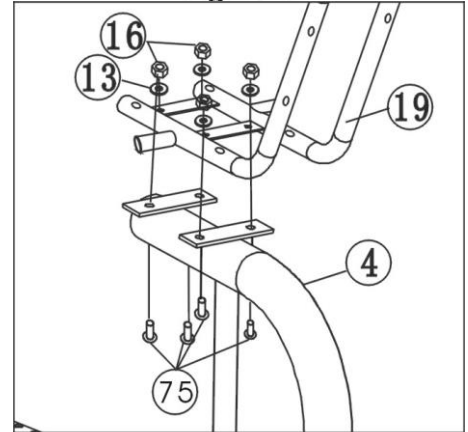

Figure 5
Attach the Seat cushion frame (19) with eight M8*16 Bolts (75), $\phi 8$ Flat washers (13) and M8 nylon nuts (16). (See figure 5)